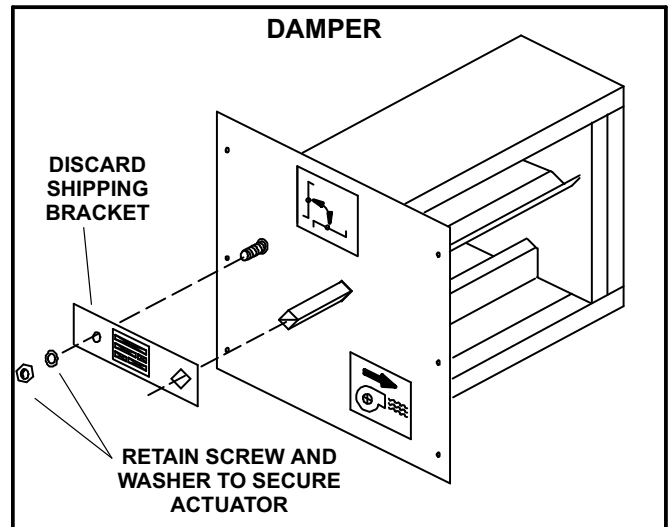

FIGURE 3
- 1- Remove and retain nut and washer securing shipping bracket to damper. Discard bracket. See figure 3.
- 2- Remove and retain nut and washer securing shipping bracket to damper. Discard bracket. See figure 3.